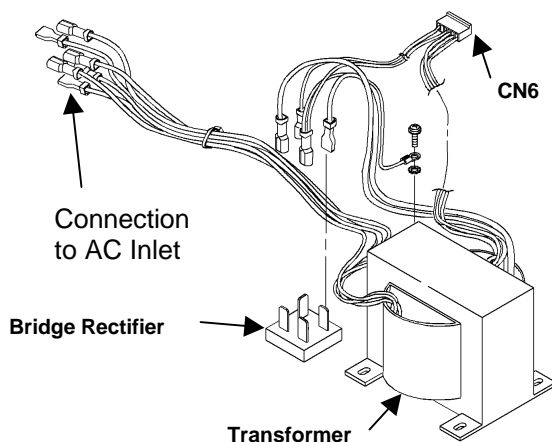

Figure 6-1. Transformer Wiring Diagram
1. Remove four bridge rectifier wires as shown in Figure 6-1.